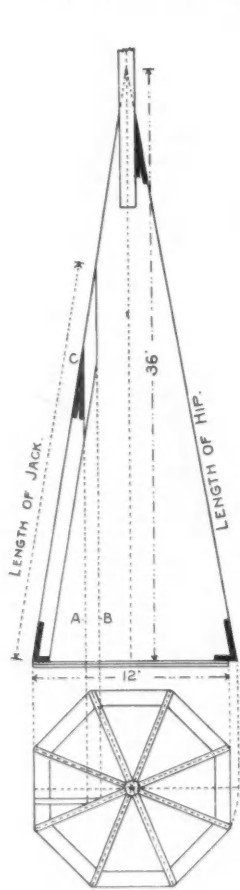
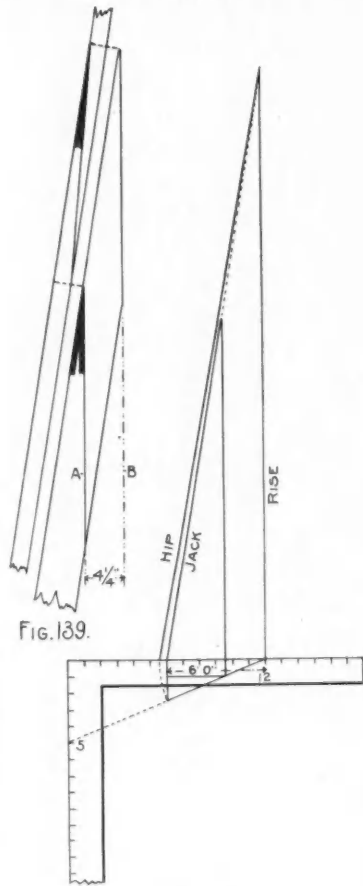

FIG. 138.
FIG. 140.
**T**AKING up the subject of octagon work where we left off last month, we will now apply the same rules to steep pitches, such as are often used in building spires for churches. The illustration in Fig. 138 shows the plan of an octagon, twelve feet
NOTE.—Fig. 140 is a modified diagram of Fig. 138.
These few lines give all of the proportions required in framing a spire of the dimensions shown in Fig. 138, and is all that is necessary to arrive at the proportions to take on the steel square to obtain all of the cuts and bevels.